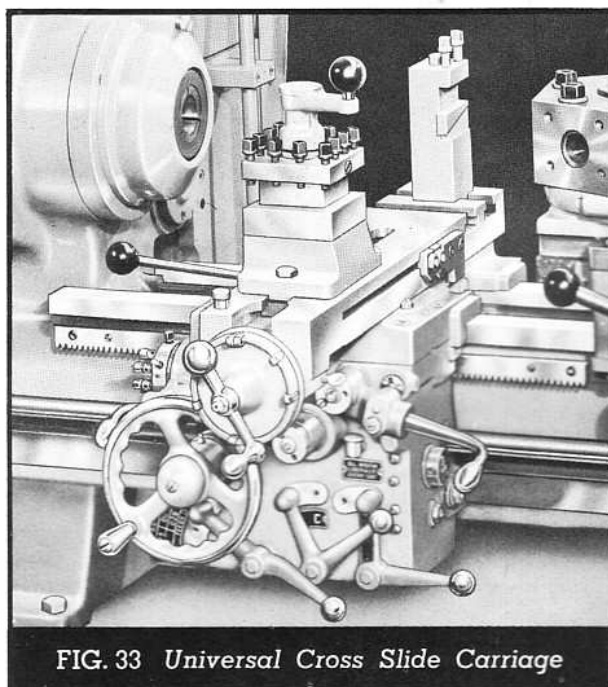

FIG. 33 Universal Cross Slide Carriage
The Cross Slide Carriage, Fig. 33, is gibbed to the inside of the front rail of the bed with a taper gib (6) Fig. 32. In addition, caps are fitted to the front and rear, which bear on the under side of the bed rails.